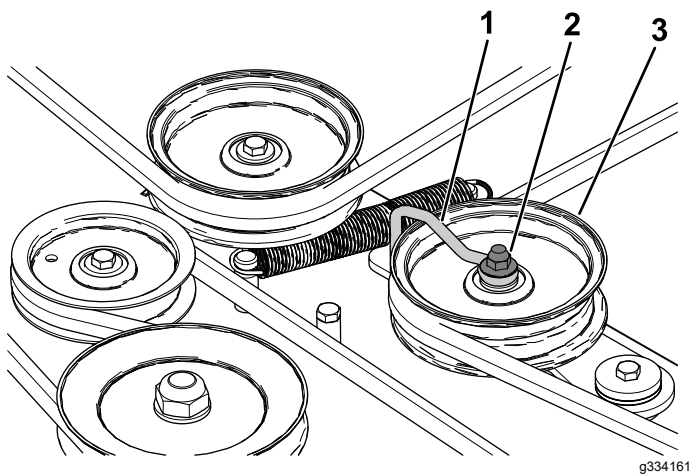

Figure 54
5. Loosen the nut securing the wire form to the idler pulley (Figure 54).
- Tighten the nut securing the wire form to the idler pulley (Figure 54).
Note: Position the wireform against the idler arm as shown in Figure 54.